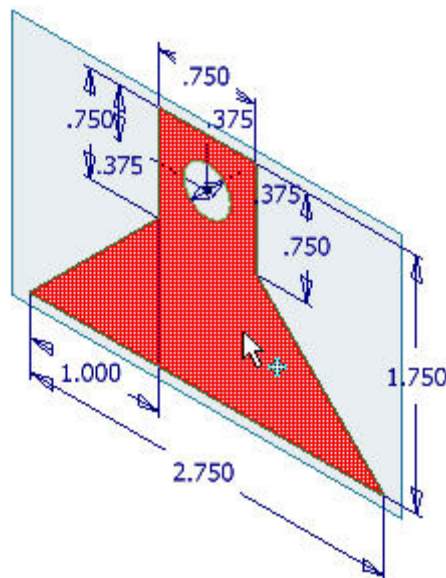

Figure 10
8. Move the cursor over the sketch till it becomes highlighted and left click, making sure that the circle is not included, as shown in Figure 10.